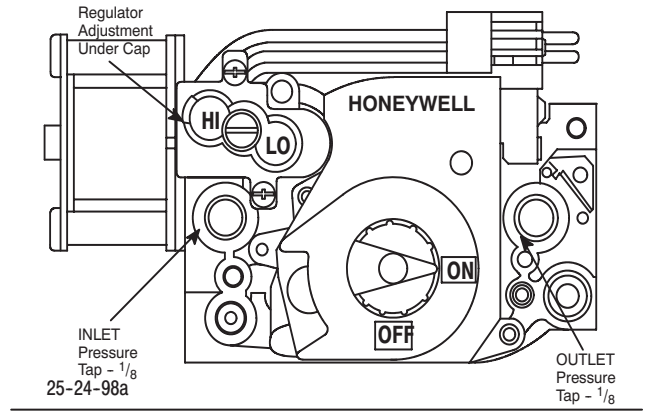
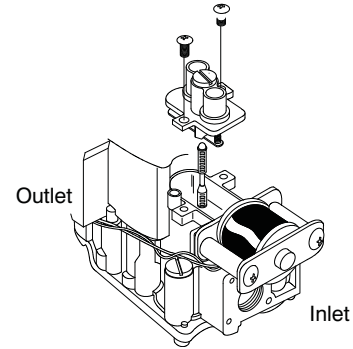

Fig. 5 - Honeywell Gas Valve VR8205Q
Fig. 6 - Typical Honeywell Regulator Assembly
1. Remove the two screws securing the Hi/Lo regulator cover to the valve. (See Fig. 5 & Fig. 6)
- Verify the igniter is in the correct location. (See **Figure 5**.)
1. Remove the plug from the Inlet Pressure Tap on gas valve and install a manometer. (Fig. 5)
1. Connect U-Tube manometer to the tapped opening on the outlet side of gas valve on the manifold pipe. (See Fig. 5)